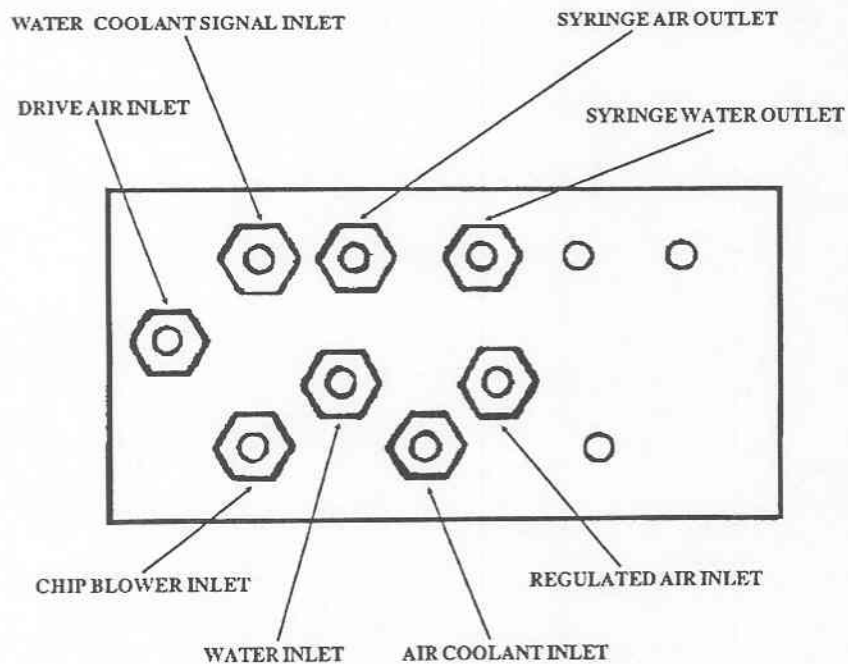

Figure 3-2. Master block assembly.
3-17. Master block assembly. (Refer to figures 3-2 and E-3.)
- (8) Inspect the valve for wear or damage.
- (9) Disassemble the valve by following the breakout illustration (fig 3-2) and repair as required.
- (10) Reassemble the valve.
- (11) Lightly coat the o-rings with silicone grease.
- (12) Push the valve into the assembly block until it is fully seated.